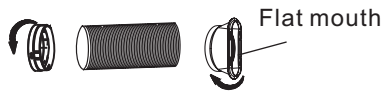

Fig.18
1. Install the window Exhaust adaptor (flat mouth) onto the exhaust hose as shown in Fig.18. Refer to the previous pages for window kit installation.